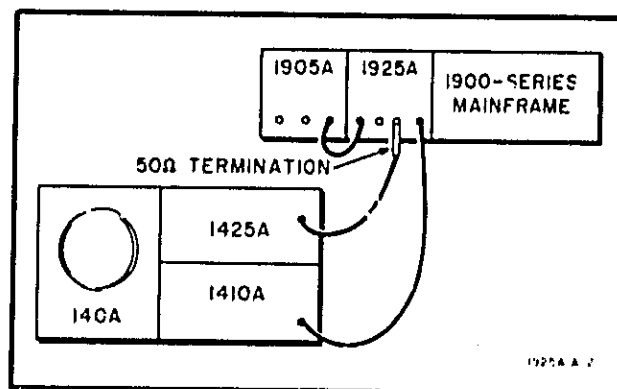

Figure 5-1. Word Pulse Amplitude Test Setup
a. Connect the equipment and accessories as shown in Figure 5-1. Ensure that the outputs of Model 1925A are terminated in 50-ohm loads either at the instrument or at the high-frequency oscilloscope.